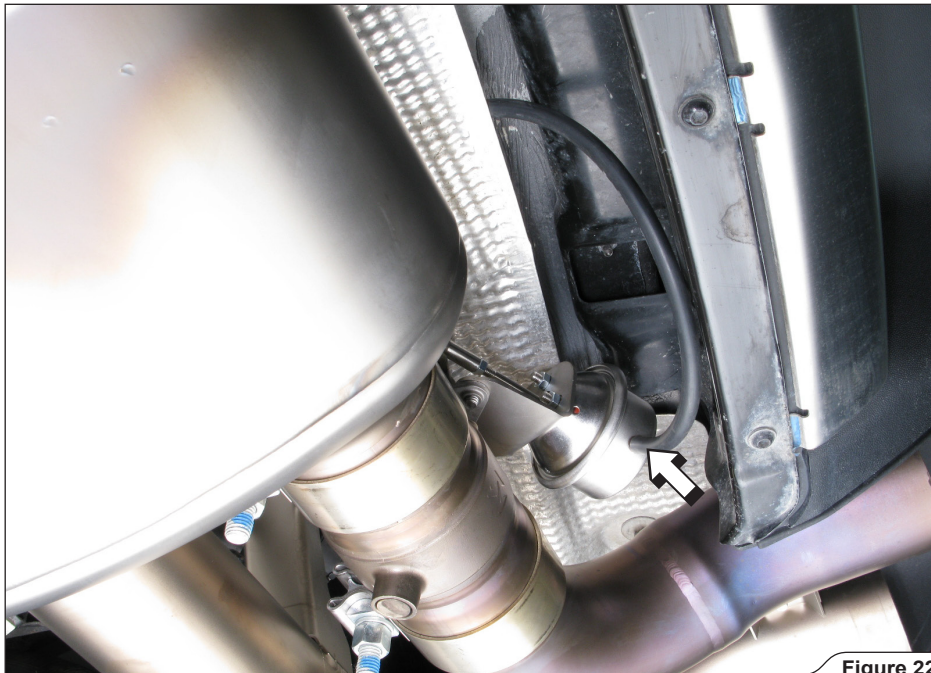

Figure 22
17. Reinstall the Akrapovič muffler onto the vehicle. Connect the vacuum hoses to both vacuum actuators (**Figure 22**).